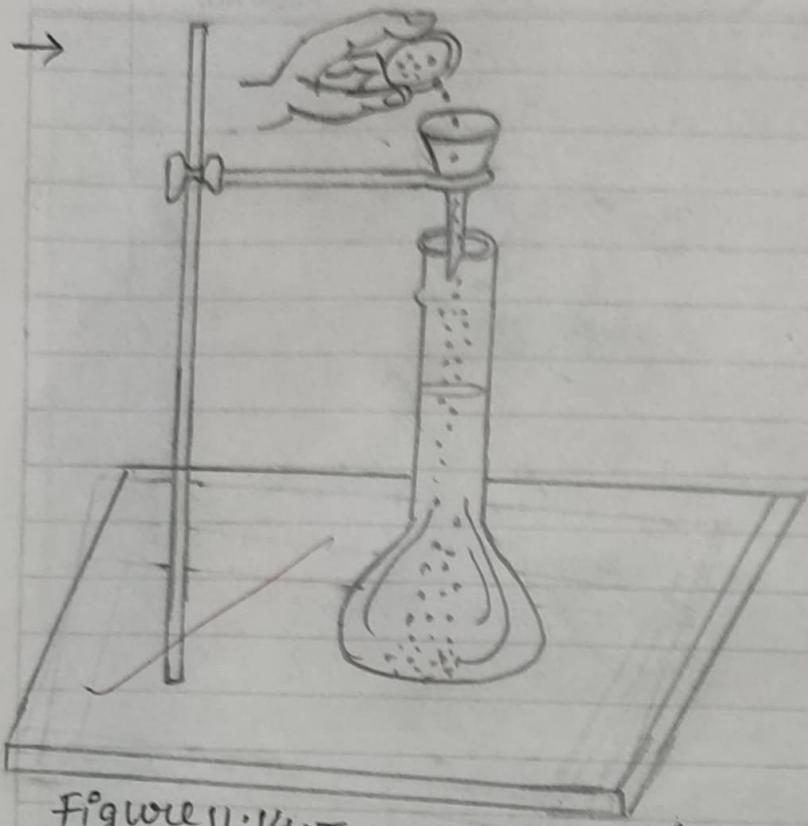

Figure 11.14. Transferring oxalic acid to the flask.
- 4) Transfer gently and carefully the oxalic acid from the watch glass into a clean 250ml measuring flask using a funnel. Wash the watch glass with distilled water with the help of a wash bottle to transfer the particles sticking to it into the funnel. [fig: 11.14]